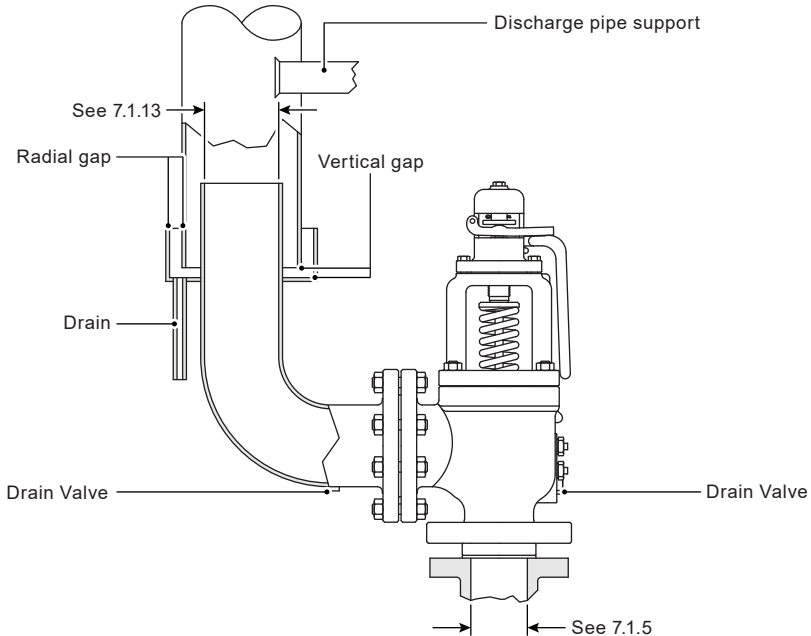

Fig. 1
7.1.1 The valves must be installed according to the requirements in Figure 1 below: